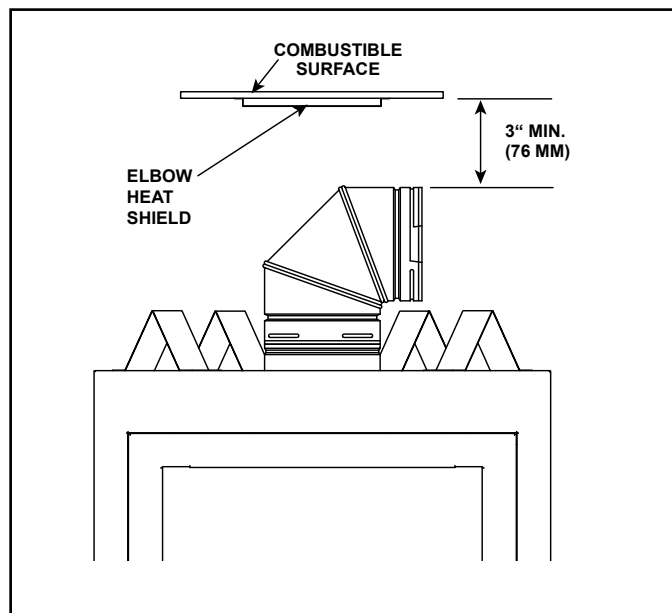

Figure 10.15
1. Determine if the heat shield is required. Measure the vertical distance between the top horizontal surface of the vent elbow and the nearest combustible surface above the vent elbow. If the distance is more than 4 inches, the heat shield is **NOT** required. If it is 3-4 inches, the heat shield **IS REQUIRED**. Install per the following steps. See Figure 10.15.